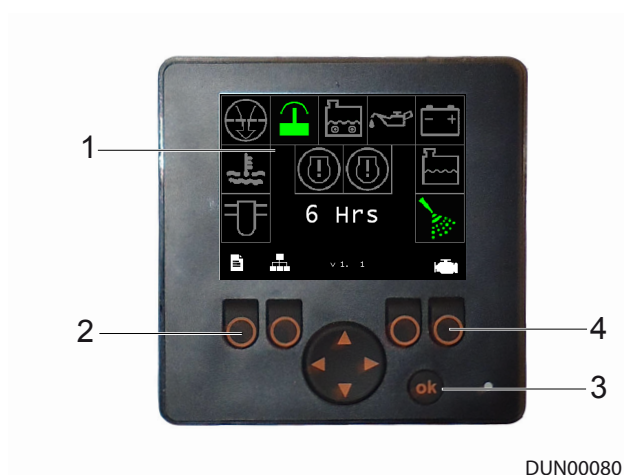

Figure 7.5 - Control Panel Display
- » To view engine information, press the button under the engine symbol (item 4), Ref: Figure 7.5.
- To return to the main menu home screen any time press the button under the exit symbol (item 2), Ref: Figure 7.5.